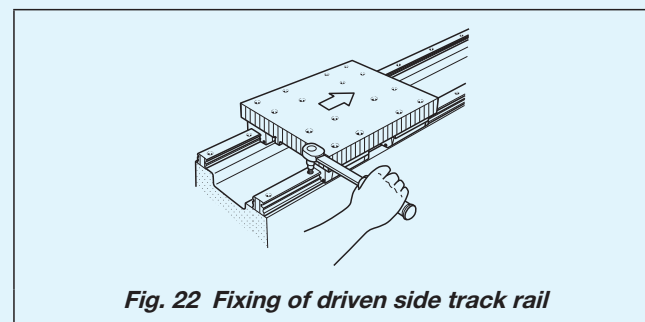

Fig. 22 Fixing of driven side track rail
⑦ Fixing of Linear Way II track rail
- Move the table and fix the Linear Way II track rail ensuring smooth motion status. At this point, tighten each fixing bolt immediately after the fixed slide unit of the Linear Way II passes on each of it. Repeat this method from one end to fix the track rail in order. (See Fig. 22)